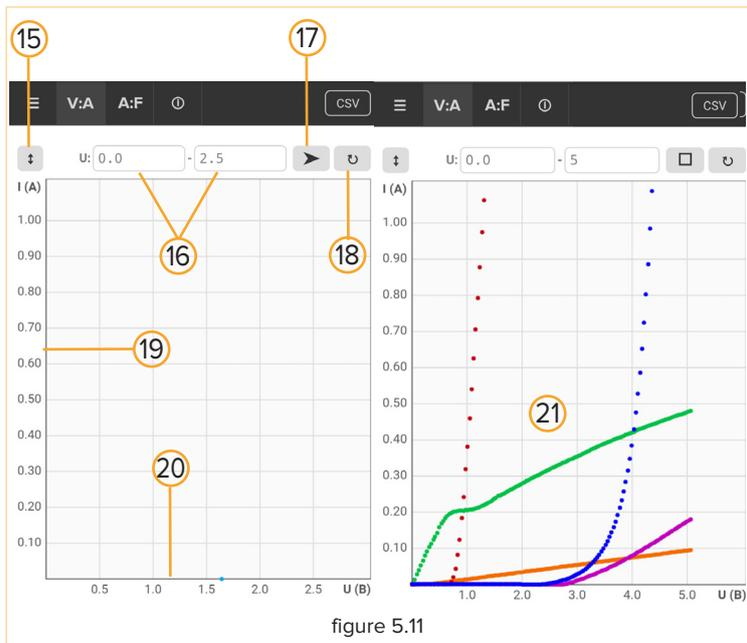

figure 5.11
- Click the start button (17 in Figure 5.11).
- After completion of construction or forced stop, you can connect another load and construct its volt-ampere characteristics on the same graph. Characteristics constructed in this way will have a different color. In order to clear the graph, press the clear button (18 in Figure 5.11).
- Click the start button. (17 in Figure 5.11).
- After completion of construction or forced stop (17 in Figure 5.11), you can connect another load and construct its amplitude-frequency characteristics on the same graph. Characteristics constructed in this way will have a different color.
- To clear the graph, press the clear button (18 in Figure 5.11).
- Connect to the PSU using its IP address and select AF (4 in Figure 5.11).